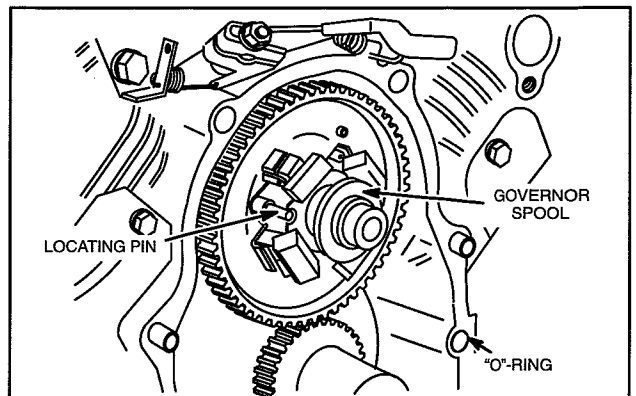

Fig. 5 – Installing Camshaft
2. Align timing marks on camshaft and crankshaft timing gear and install camshaft, Fig. 5.